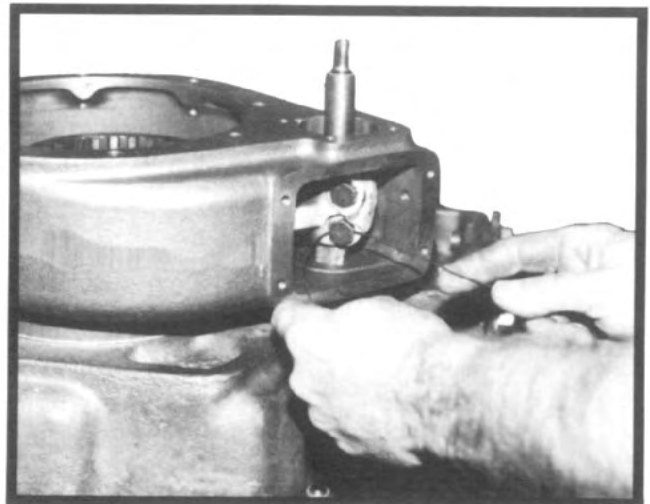

Fig. 27
4. Install two shift fork clamping screws and tighten to correct torque. Secure clamp screws with lockwire (see fig. 27).
NOTE: If the clamping screws are not easily accessible through the side cover as shown in fig. 27, the fork is installed backward.